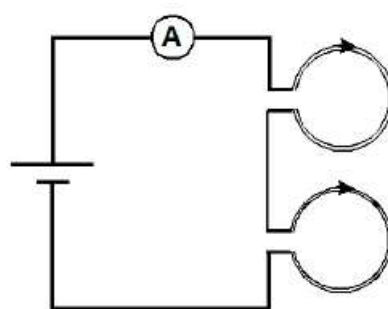

Figure 5. Helmholtz wiring
- ③ Connect the second coil in series with the first coil. See Figure 5.